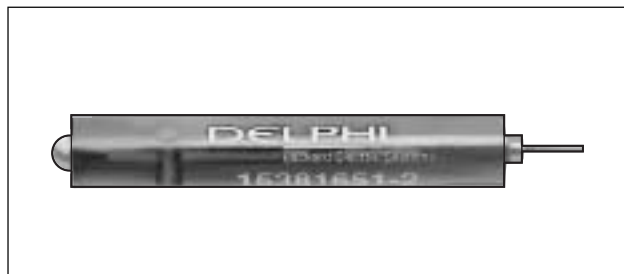

Figure B-27. Packard Micro 64 Terminal Remover (Part No. HD-45928).
4. Obtain the Packard Micro 64 Terminal Remover (HD-45928). See Figure B-27. Proceed as follows: